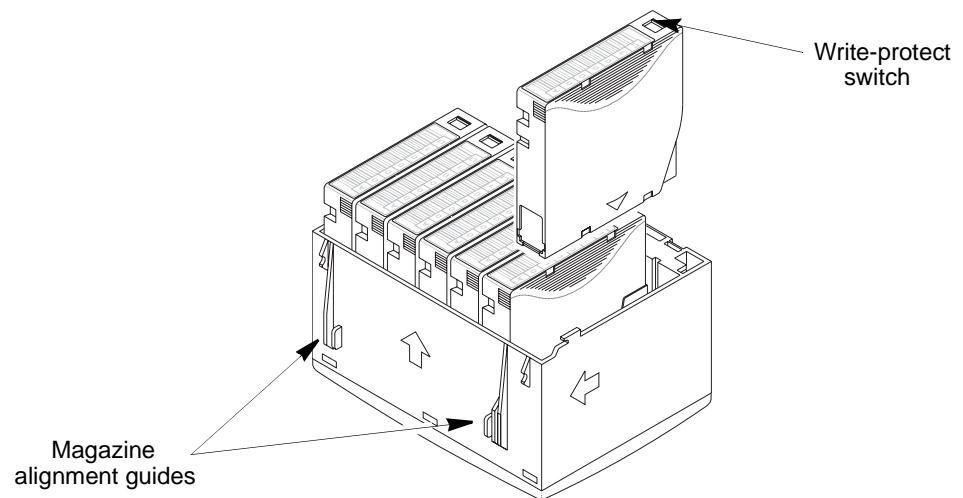

Figure 2-7 Installing cartridges in a magazine
1. Install cartridges in each magazine so that the write-protect switches are positioned away from the alignment guides, as shown in Figure 2-7.